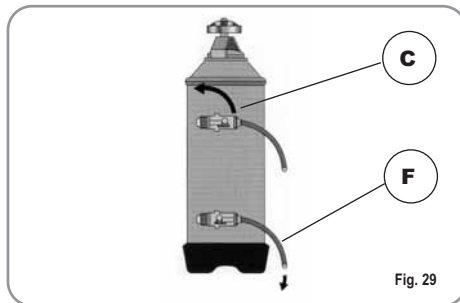

Fig. 29
- 2) Put the cap back on and reposition lever C moving it towards the left (Fig. 29) and allowing tube F to discharge the salty water until it has been eliminated and the water becomes fresh again (about half an hour).